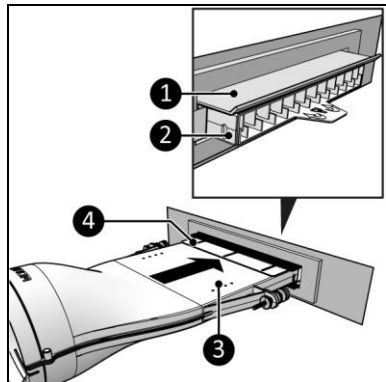

Figure 4
1. Insert the main body (Figure 4, pos. 3) into the transit (Figure 4, pos. 4).
2. Make sure the main body (Figure 4, pos. 3) is sticking out from the mailbox (Figure 4, pos. 2), so that the mailbox flap (Figure 4, pos. 1) stays open and rests on the main body.